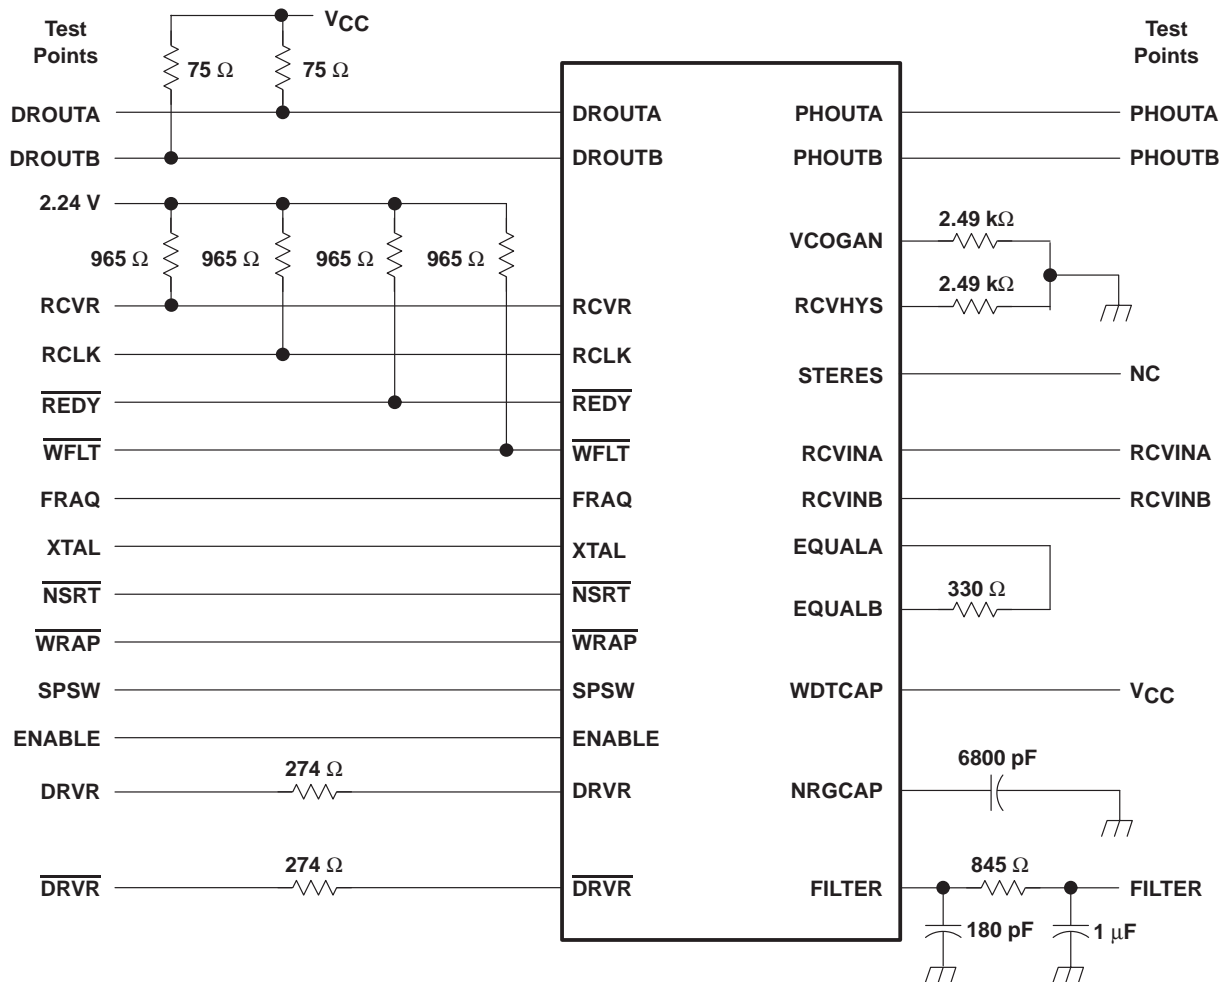
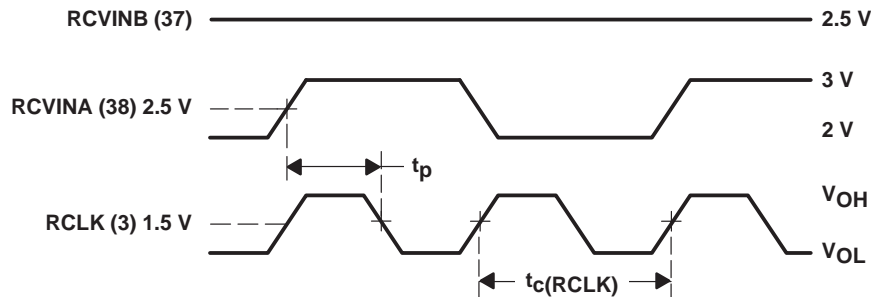

Figure 8. ac Test Circuit
Figure 12. Phase-Detector-Gain Test Timing
transmitter (see Figures 8 and 9)
RCLK and RCVR (see Figures 8 and 10)
loop parameters (see Figures 8, 11, and 12)
15. The circuit of Figure 8 is used to measure phase-detector gain with $I_{(FILTER)}$ injected at the filter test point. Figure 12 shows the relevant timing. With the TMS38054 in phase lock, the propagation delay (t_p) between RCVINA positive transition and RCLK negative transition is measured. A value t_{p1} is seen when $I_{(FILTER)} = I_{(FILTER)1}$, and a value t_{p2} is seen when $I_{(FILTER)} = I_{(FILTER)2}$. The phase-detector gain is then calculated as $(I_{(FILTER)2} - I_{(FILTER)1}) \div (t_{p1} - t_{p2})$. The result is in $\mu A/ns$ (see external filter section).
data recovery (see Figures 8 and 13 and Note 16)
energy detect ($\overline{\text{REDY}}$) (see Figure 8 and Note 17)